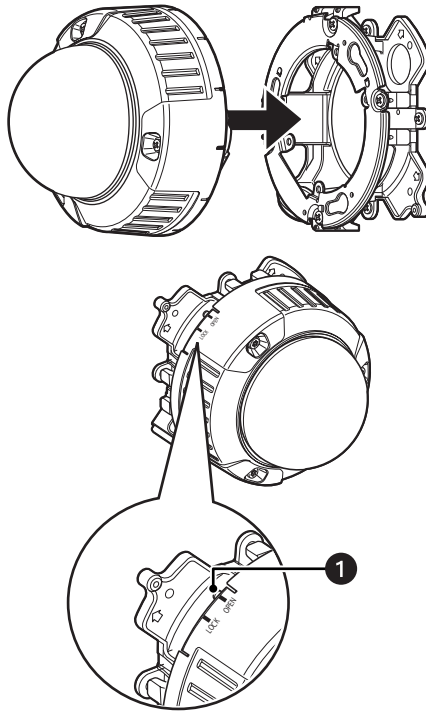

Figure 12. Attaching the Camera to the Camera Attachment (Surface Mount)
- a. Attach the camera onto the camera attachment while aligning the OPEN mark on the camera with the protrusion on the camera attachment (refer to Figure 12).